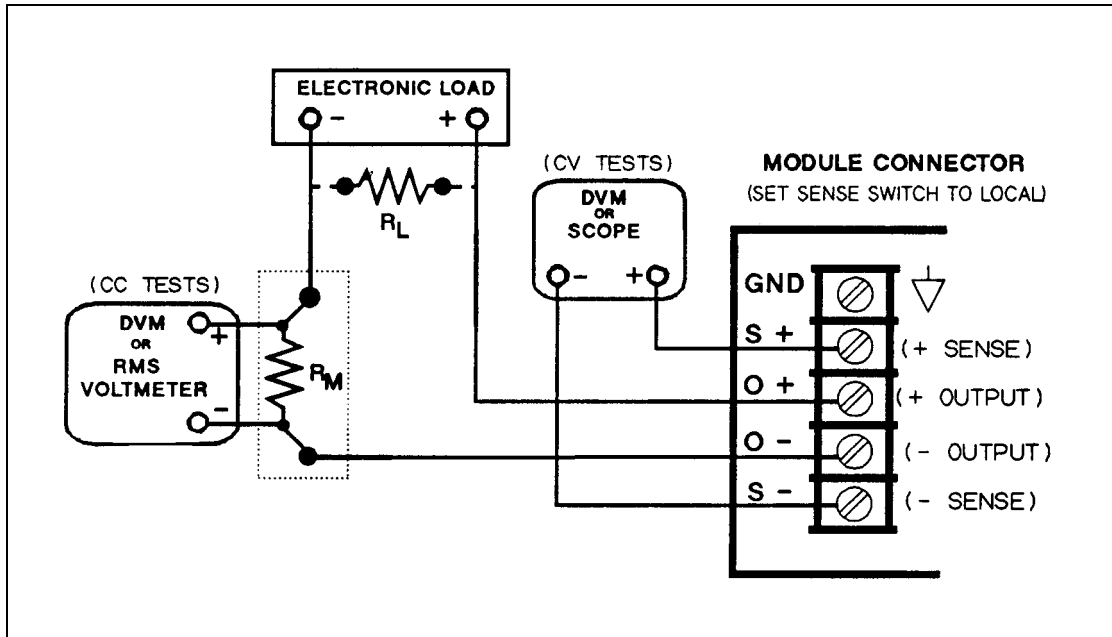

Figure 2-1. Performance Test Setup
To eliminate output current measurement error caused by voltage drops in the leads and connections, connect the current monitoring resistor between the output and the load as a four-terminal device (see  $R_M$  in Figure 2-1). Connect the current monitoring leads inside the load lead connections directly at the monitoring points on the resistor element.
1. Turn off the power module and connect a digital voltmeter between the + **S** and -**S** terminals (see Figure 2-1).
1. Turn off the module and connect the output as shown in Figure 2-1 with the DVM connected between the + **S** and - **S** terminals.
6. The difference between the DVM readings in steps (4) and (5) is the load effect voltage and should not exceed the value listed in the Performance Test Record Tables under CV LOAD EFFECT, for the model being tested.
2. Connect the output as shown in Figure 2-1 with the DVM connected between the + S and - S terminals. Set the transformer to nominal line voltage (either 115Vac or 230Vac).
9. The difference between the DVM readings in steps (6) and (8) is the source effect voltage and should not exceed the value listed in the Performance Test Record Tables under CV SOURCE EFFECT, for the model being tested.
1. Turn off the module and connect the output as shown in Figure 2-1 to an oscilloscope (ac coupled) between the + and-- terminals. Set the oscilloscope's bandwidth limit to 20MHz (30MHz on the Keysight 54504A) and use an RF tip on the oscilloscope probe.
1. Turn off the module and connect the output as shown in Figure 2-1 with the oscilloscope across the + S and -S terminals.
1. Turn off the module and connect the output to be tested as shown in Figure 2-1 with the voltmeter connected across the current monitoring resistor.